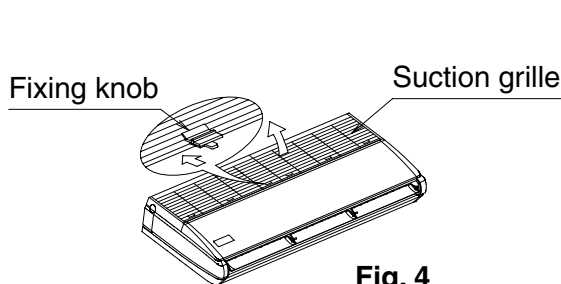

Fig. 4
- Slide the suction grille fixing knobs (35, 50 type: 2 places for each, 60~140 type: 3 places for each) toward backward direction (as shown by an arrow) to open the suction grille widely. **(Refer to Fig. 4)**